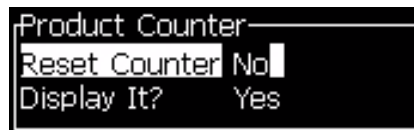

Figure 4-17: Product Counter Dialog Box
- 3 Press the *Enter* key to open the product counter dialog box (see Figure 4-17).